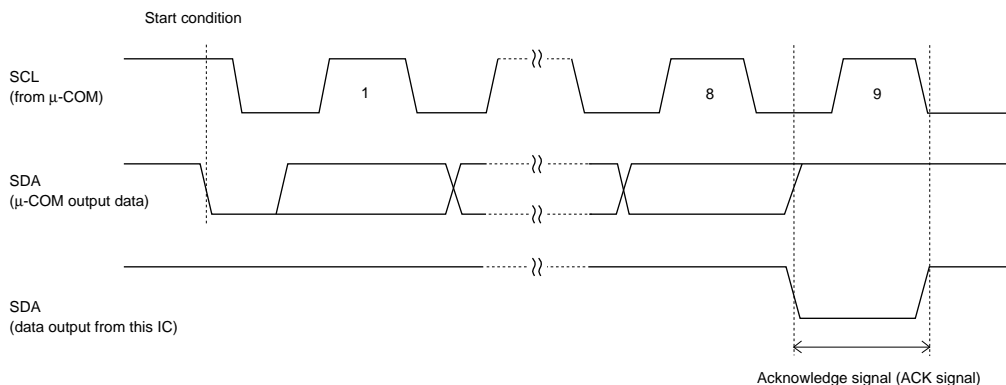

Fig. 7 Acknowledge signal (ACK signal) response
- In the various reading operations, 8-bit data (read data) is output, and then the acknowledge signal (ACK signal) in the LOW state is detected. If the acknowledge signal (ACK signal) is detected and no stop condition is sent from the master (microcomputer) side, this IC continues to output data. If the acknowledge signal (ACK signal) is not detected, this IC interrupts the transmission of data, recognizes a stop condition (stop bit), and terminates the reading operation. The IC then enters the standby mode. (Refer to "Fig. 7 acknowledge signal (ACK signal) response.")